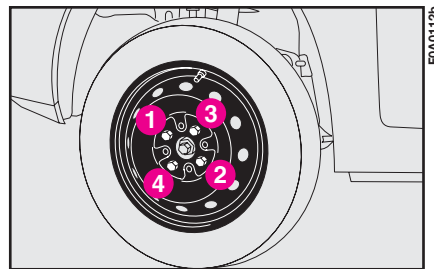

fig. 11
19) Fasten bolts completely, working in a criss-cross fashion as shown in fig. 11.